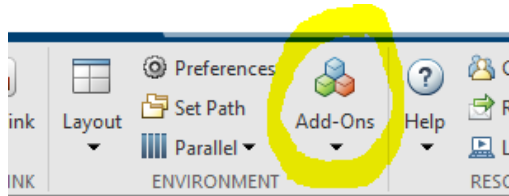

Figure 5 - Add-Ons button
- Push the Add-Ons button in the Home items of the main menu on the top (see Figure 5)